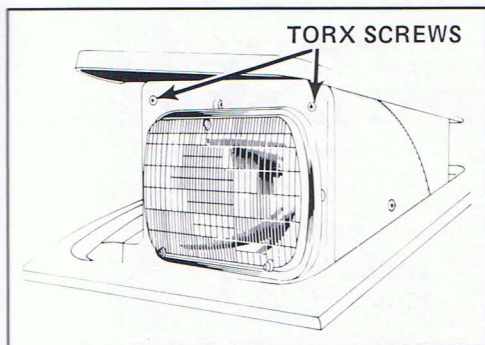

Figure 2 - Front of left hand headlight
7. Remove the Torx screws from the upper corners of the black plastic outer bezel. See Figure 2.